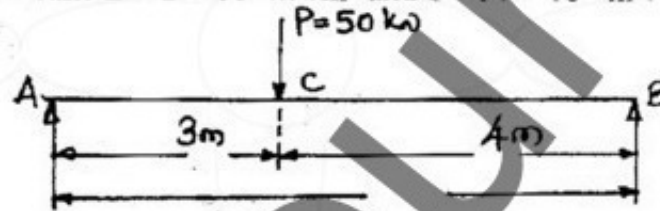

Fig Q7(b)
b. Find the deflection under concentrated load for the beam shown in Fig Q7(b). Using Castigliano's theorem. Take $E = 2 \times 10^8 \text{ kN/m}^2$ and $I = 14 \times 10^{-6} \text{ m}^4$.